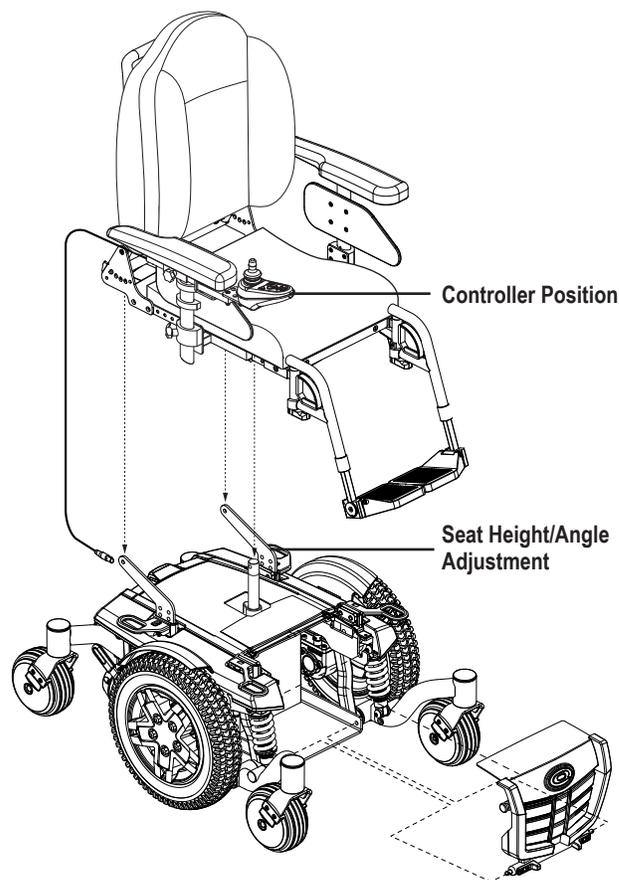

Figure 3. Q4 Assembly View
Your power chair may require some assembly either before initial use or after transportation. It may also require disassembly to make some comfort adjustments. **Figure 3** details those parts of the power chair that are designed to be disassembled and assembled by an end user or by a qualified caregiver before using the product or making comfort adjustments.
3. Install the controller and route the harness to the back of the power base. **See figure 3.**
4. Plug the controller connector into the rear of the power base. **See figure 3.**